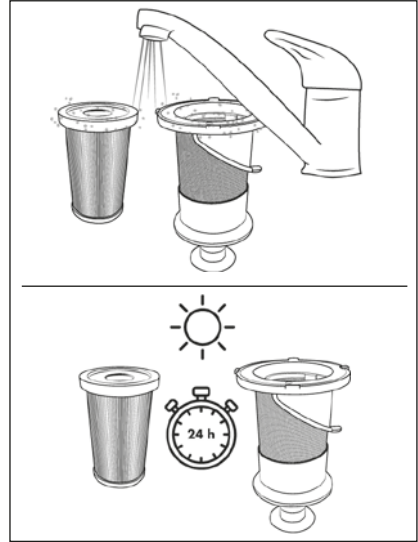

Fig. 20
- 5) Rinse the HEPA filter **5** and the stainless steel filter **6** under cold or lukewarm water. Allow the HEPA filter **5** and stainless steel filter **6** to air dry completely before putting them back into the dust container **7** (see Fig. 20).